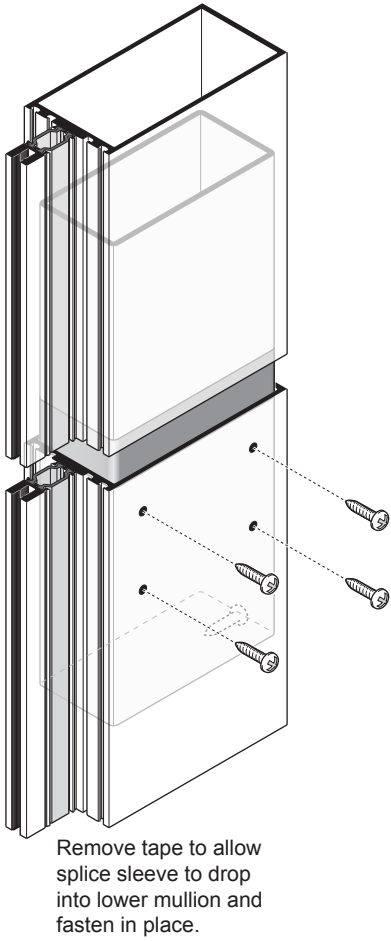

Fig. 32.3
- D. After the lower and upper verticals are erected, remove the tape holding the splice sleeve and slide into place, securing to the lower mullion as shown on approved shop drawings. See **Fig. 32.3**.